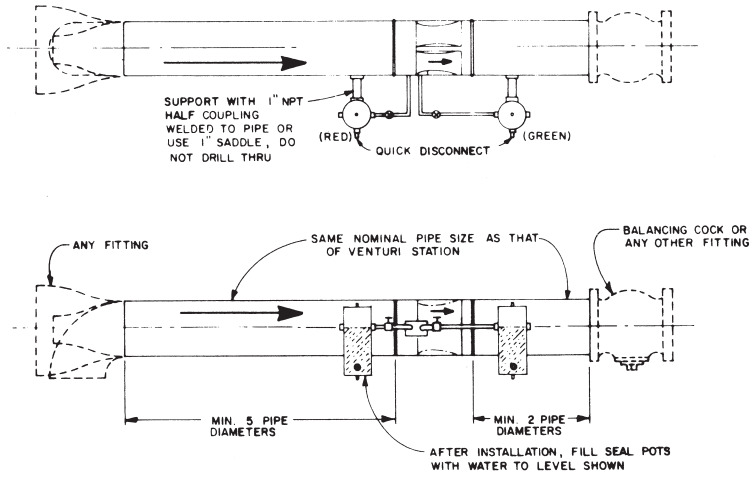

Figure 7. Horizontal installation for Barco venturi using seal pots for steam service.
2.0 Steam Service: It is recommended that seal pots, as shown in Figure 7 and 8, be used between the venturi taps and the meter. Two seal pots are required for each venturi, i.e., one for each venturi pressure tap.
1. Connect venturi pressure taps to upper seal pot taps as shown on Figures 7 and 8 with 1/4-inch copper tubing (1/8-inch pipe).